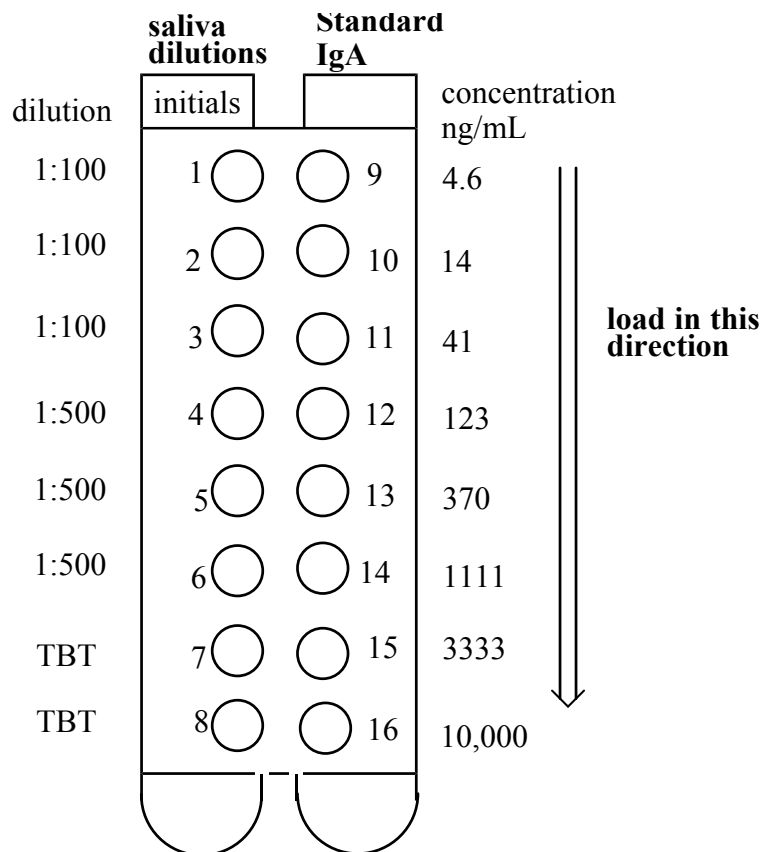

Figure 12. Diagram of samples in microtiter wells.
9. Now load the plate with your saliva dilutions and the IgA standards. First, use the micropipets to pipet 0.10 mL (100 uL) of the 1:100 saliva dilution in wells 1 through 3. The P-1000 pipet should read "010". Use one clean tip for all of the 1:100 dilutions. Next, pipet 0.10 mL of the 1:500 dilution into wells 4 through 6. Use one clean tip for all of the 1:500 dilutions. Then pipet TBT buffer only into wells 7 and 8. ". Use one clean tip for the TBT solutions. See figure 12, which shows schematically how to load the wells.